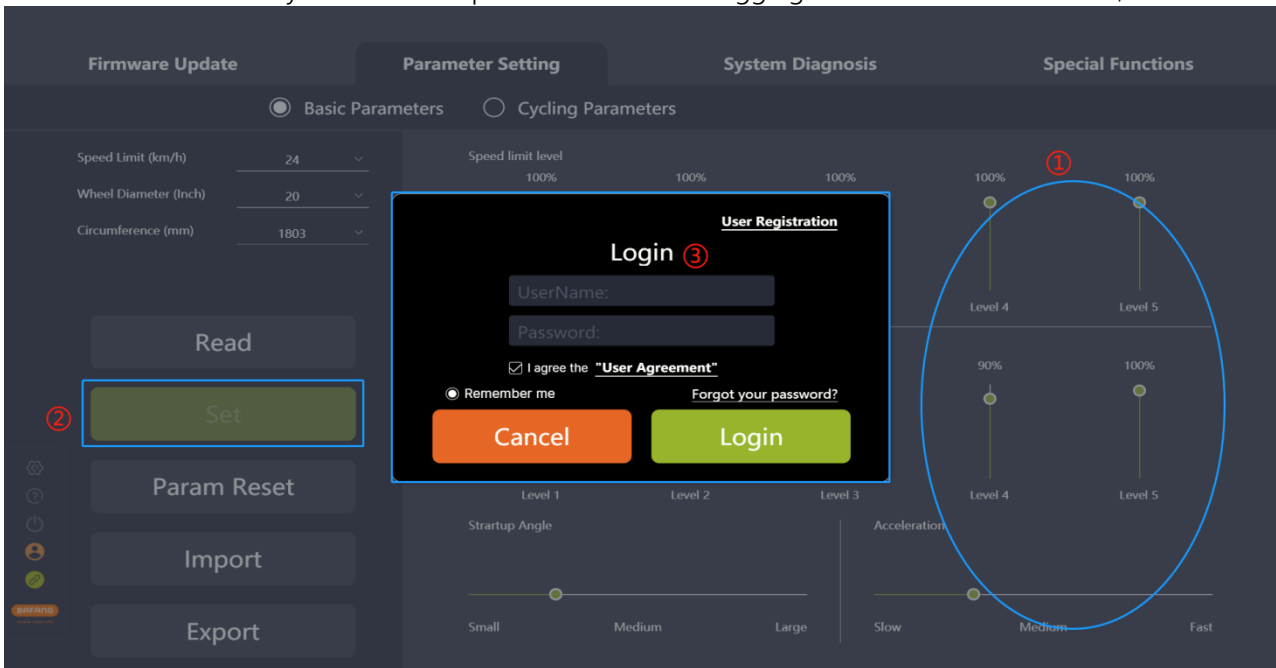

Fig. 5-5 Login
- (1) After reading successfully, adjust the parameters on the right side by pulling the slider;
- (2) After adjusting, click the "Set" icon to save the new parameters to the controller;
- (3) If you are not logged in, "Login" interface will pop up, prompting you to login (e.g. Fig. 5-5).